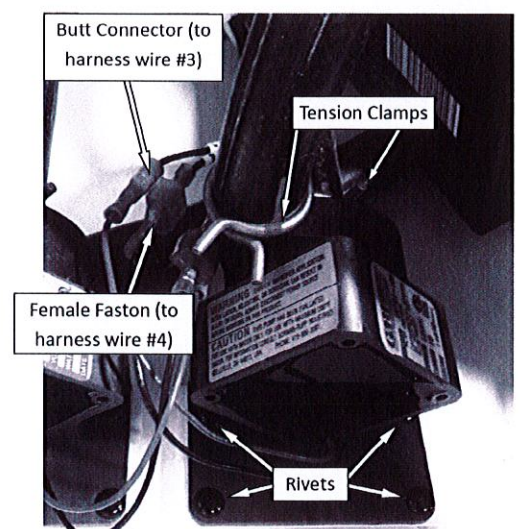

Fig 1.2 ZONE #2
- Circulation Pump ZONE #2:** Disconnect the female Faston connector from the harness wire #4. Remove the butt connector from the harness by cutting harness wire #3 and the red lead wire on either side of the butt connector (see figure 1.2).